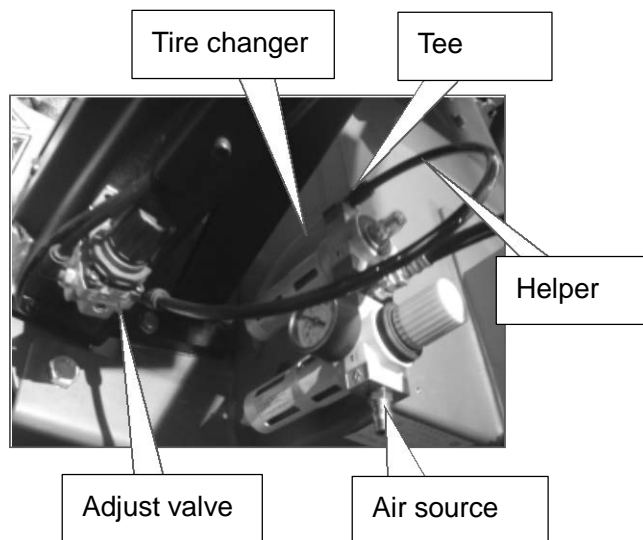

FIG8
4.2.7 Detach the outlet hose of air regulator then connect the Y-Tee and outlet using short  $\Phi 8$ PU hose. The detached hose connect another end (FIG8).